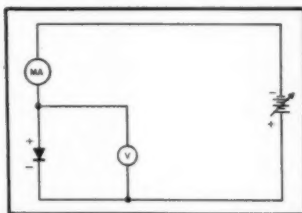

Fig. 1
W. A. Miller is the holder and assignor to RCA of patent No. 2,581,273, covering use of the negative-resistance characteristic of crystal diodes. If you will connect one in a circuit like that of Fig. 1 (using a